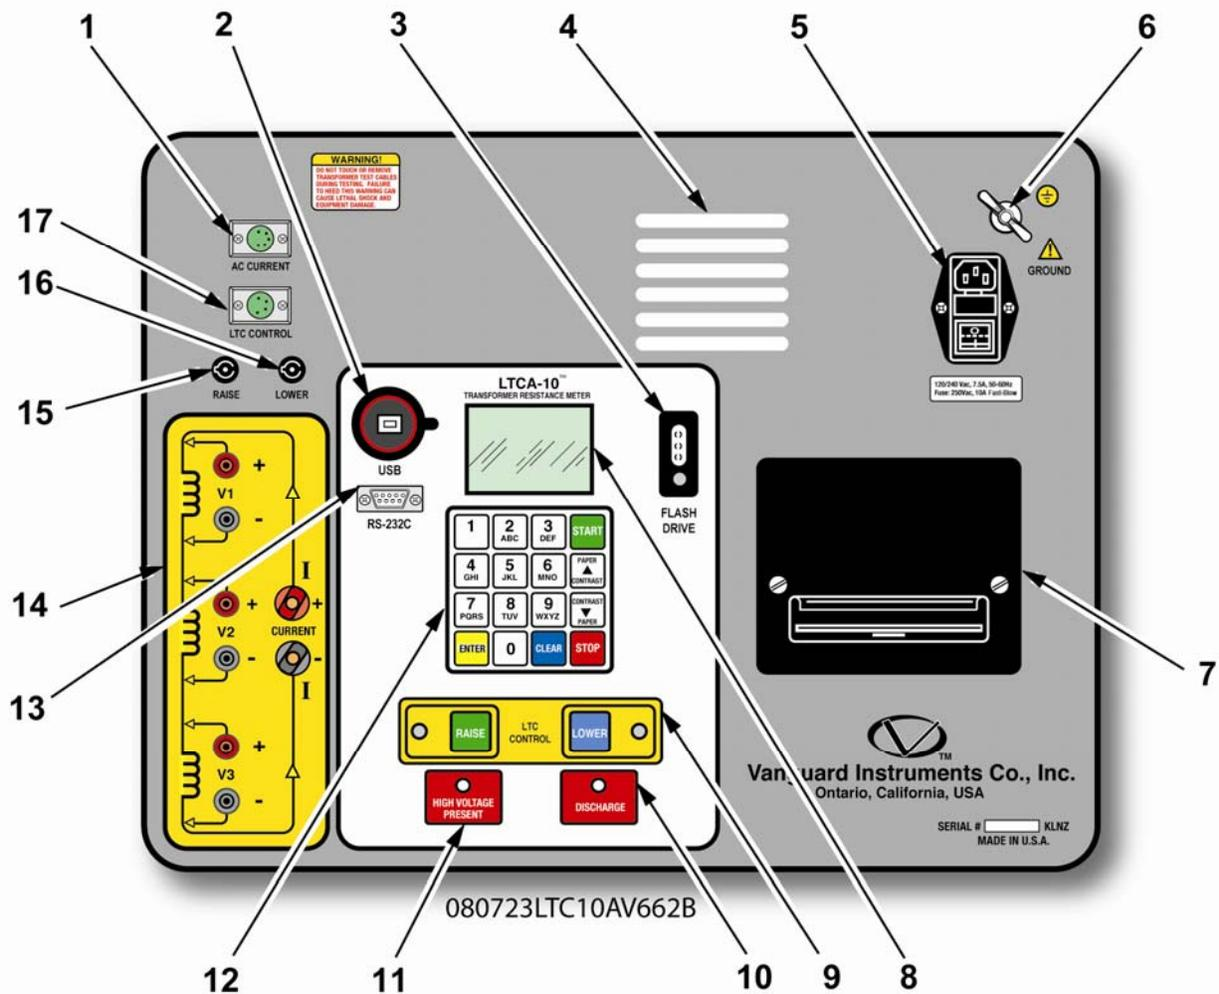
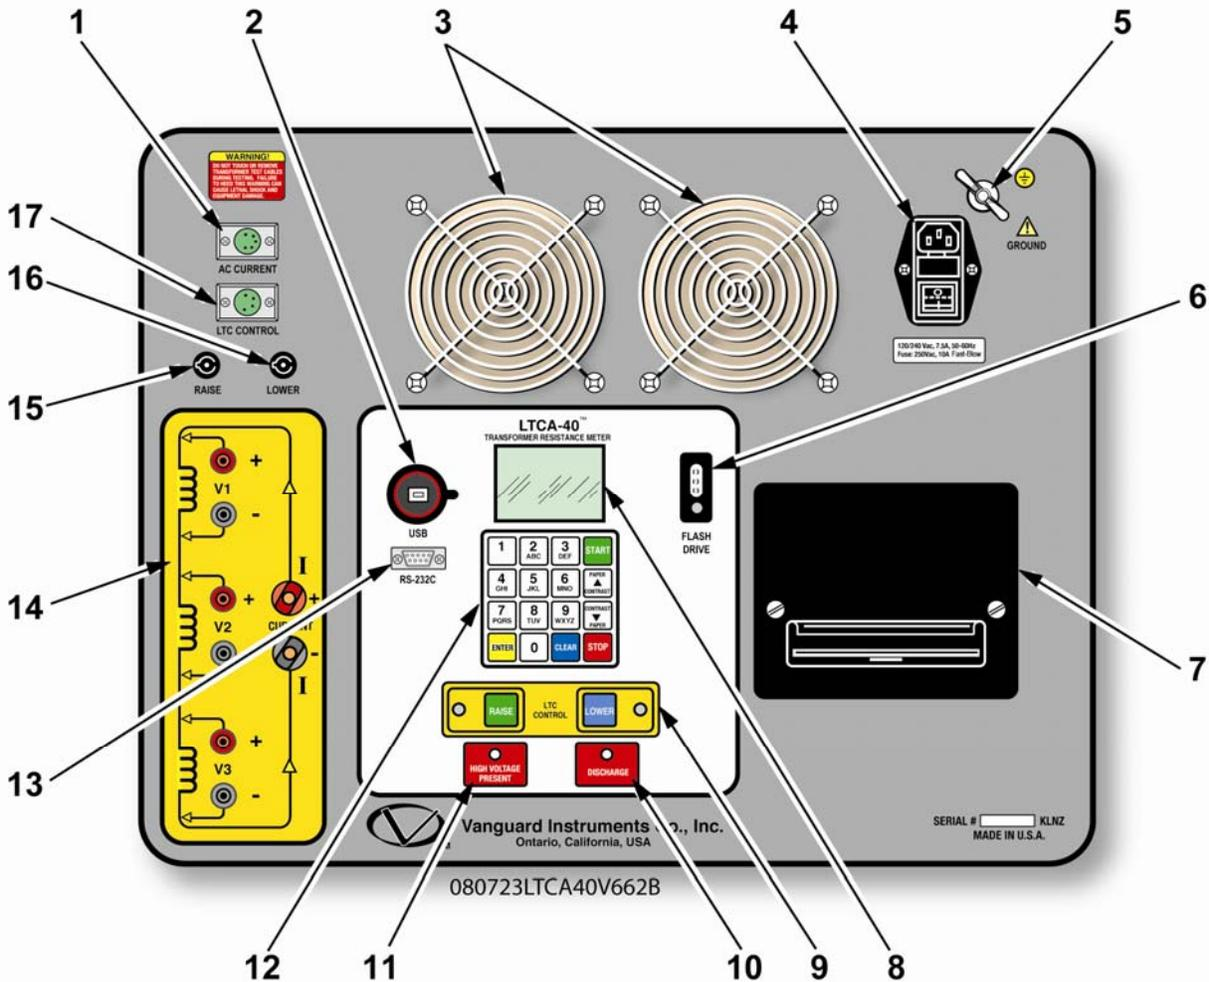

Figure 1.0 LTCA-10 Controls and Indicators
Figure 2.0 LTCA-40 Controls and Indicators
The LTCA-10's controls and indicators are shown in Figure 1.0 below. A leader line with an index number points to each control and indicator, which is cross-referenced to a functional description in Table 3.0. The table describes the function of each item on the control-panel. The purpose of the controls and indicators may seem obvious, but users should become familiar with them before using the LTCA-10/40. Accidental misuse of the controls will usually cause no serious harm. Users should also be familiar with the safety summary found on the front page of this User's Manual.
The LTCA-40's controls and indicators are shown in Figure 2.0 below. A leader line with an index number points to each control and indicator, which is cross-referenced to a functional description in Table 4.0. The table describes the function of each item on the control-panel. The purpose of the controls and indicators may seem obvious, but users should become familiar with them before using the LTCA-10/40. Accidental misuse of the controls will usually cause no serious harm. Users should also be familiar with the safety summary found on the front page of this User's Manual.
- a. Ground the LTCA-10/40 to substation ground (Item 6 in Figure 1.0, Item 5 in figure 2.0).